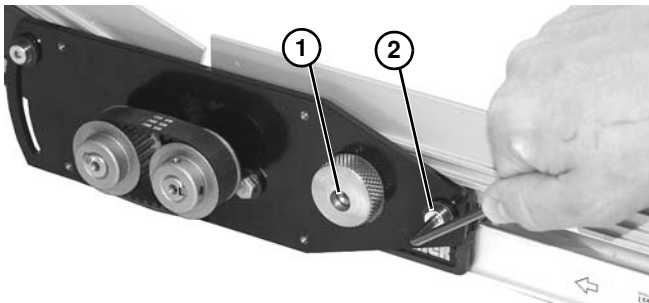

Figure 23
13. Tighten screw (Figure 23, item 1) in cam to lock belt tension.
14. Tighten screw (Figure 23, item 2) to 60 in-lb (7 Nm) to secure position.